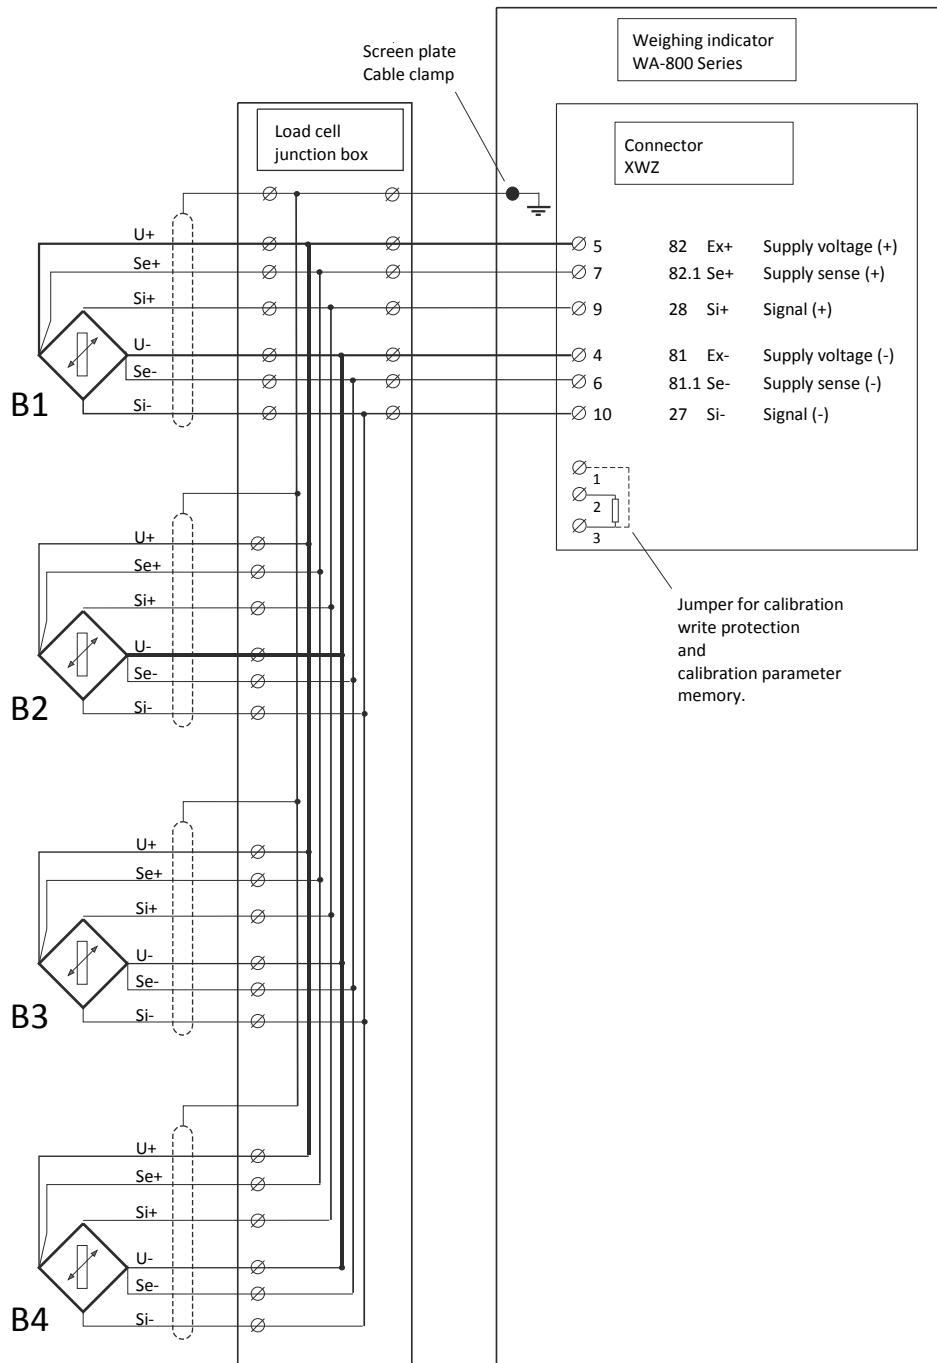

Fig. 7. Load cell connection
**Note: It is not desirable use wire ferrules for connecting cable to the connectors 1-8, Figure 7 and 8.**